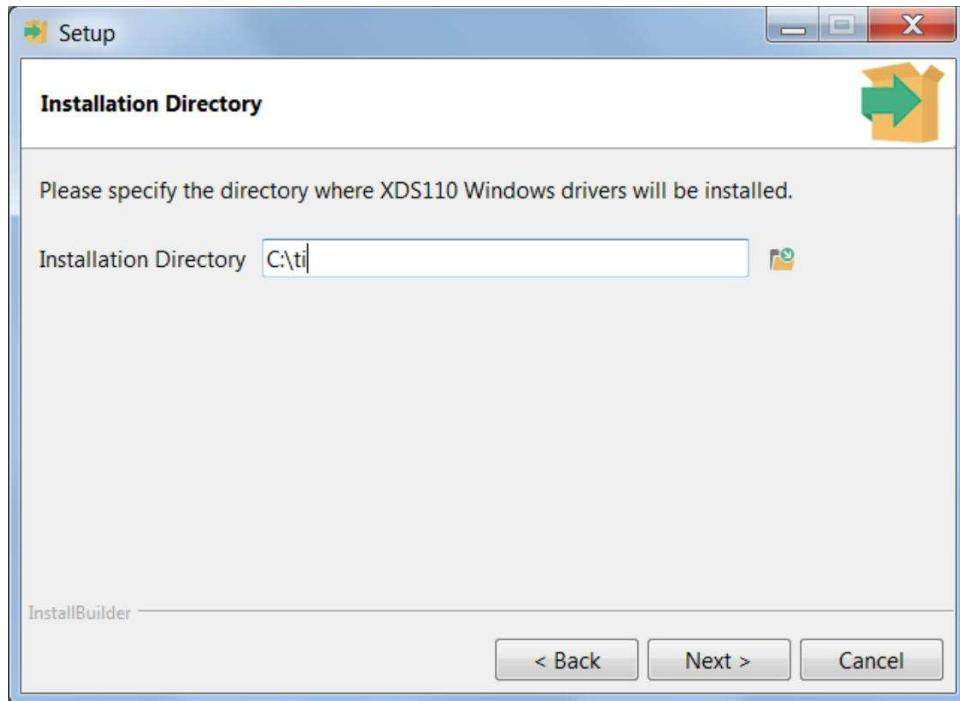

Figure 2-9. Select Install Path
3. Specify the installation path in the Installation Directory field, as shown in Figure 2-9 (default is *c:\ti*), and proceed with the installation.